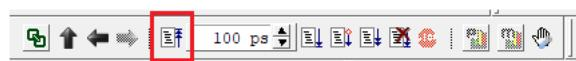

Figure 14. Restart Simulation
33. To restart the simulation, click the Restart button, as shown in Figure 14.